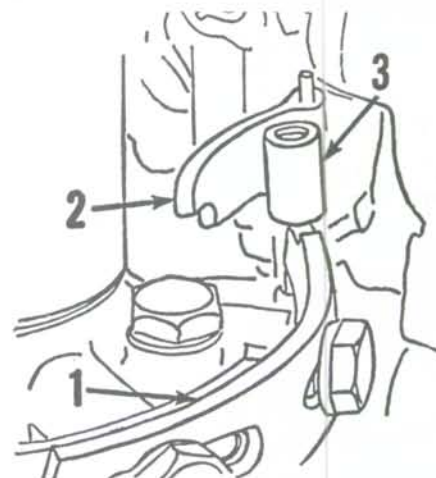

Fig. M7-5—Speed control mechanism used on Mark 30 & 55 series. Refer to text for details.
Mark 30 and 55 Series: Make certain that magneto is properly timed and adjusted; then adjust carburetor to obtain a smooth idle speed of 600 rpm. Loosen the cap screws retaining the actuating bracket (1—Fig. M7-5) to magneto frame and slide the follower roller (3) away from throttle pick-up (2). With motor at operating temperature, shift to forward gear and move the speed control lever until engine speed increases to 1000-1100 rpm for Mark 30, 30E, 30H or Mark 55H with Tillotson carburetor; 1100-1200 rpm for Mark 55 and 55E; or 2000-2400 rpm for Mark 55H with Carter carburetor. With engine speeds as indicated, move actuating bracket (1) until follower roller (3) just touches throttle pick-up arm (2); then tighten the retaining screws.